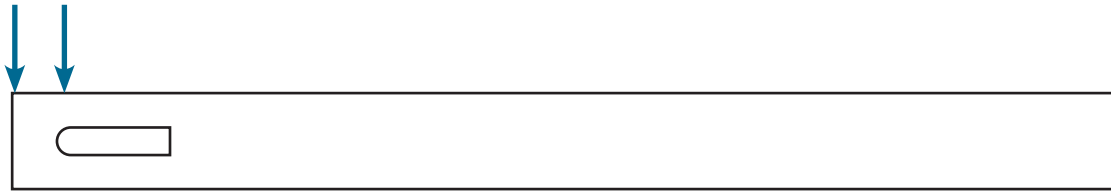

Figure 10: dimension, 1/8" minimum
Pocket Holes should be positioned at least 1/8" in from end of stock (Fig. 10) and a minimum of 3/8" (Offset, Fig. 11) from edge. This provides for a strong joint. Stock wider than 1-1/4" should have a minimum of two pocket holes and more pocket holes if over 3" wide. When joining cabinet sides to a face frame, or other large panel processing, pocket holes should be spaced every 6-8" and 2" in from the end (offset).
6. Confirm pocket distance (Fig. 10) is a minimum of 1/8" from end of material to end of pocket.